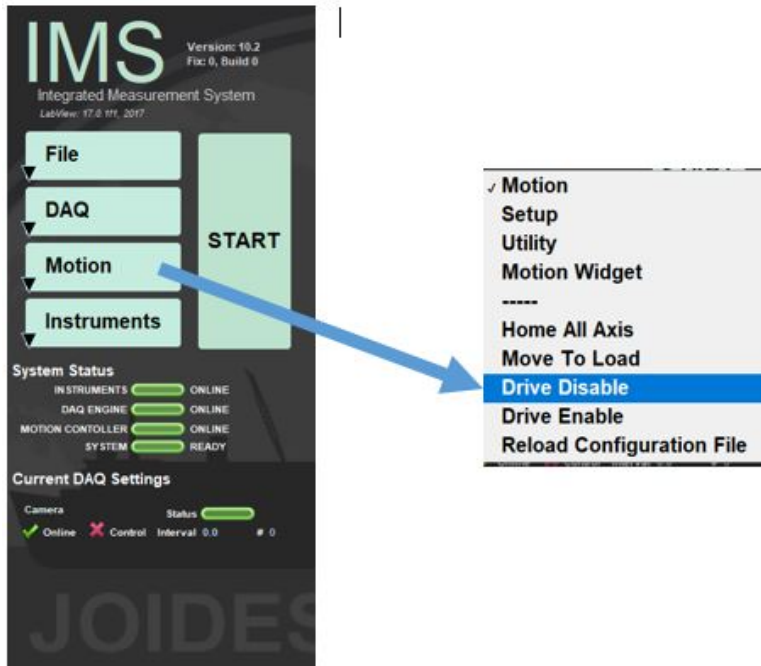

Figure 7. IMS commands to disable the drive.
1. In the **IMS control panel** select **Motion** and then **Drive Disable** from the dropdown menu (Figure 7). You will have to move the camera by hand for the calibration, disabling the motor allows manual movement of the camera on the track.